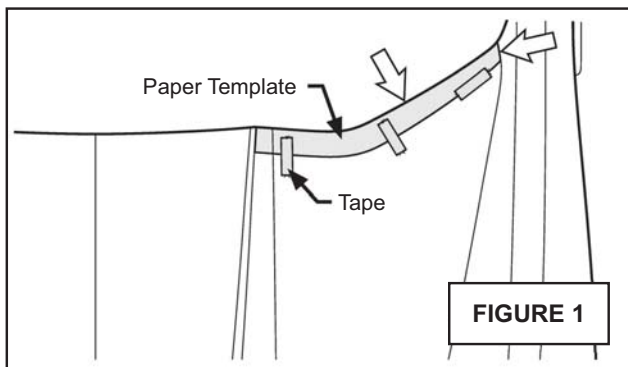

FIGURE 1 - Template alignment.
1. Trim out the paper template, align the edges to the hood panel and tape the template into place (Figure 1).